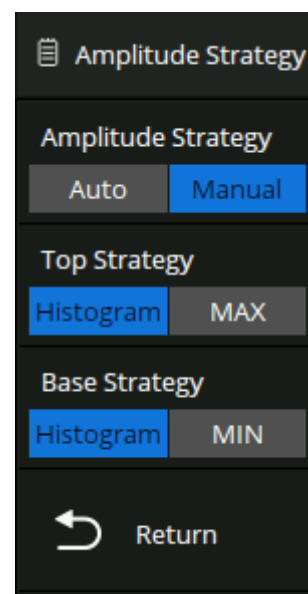

Figure 12.21 Amplitude Strategy
- The **Amplitude Strategy** menu shown in figure 12.21 will be displayed.